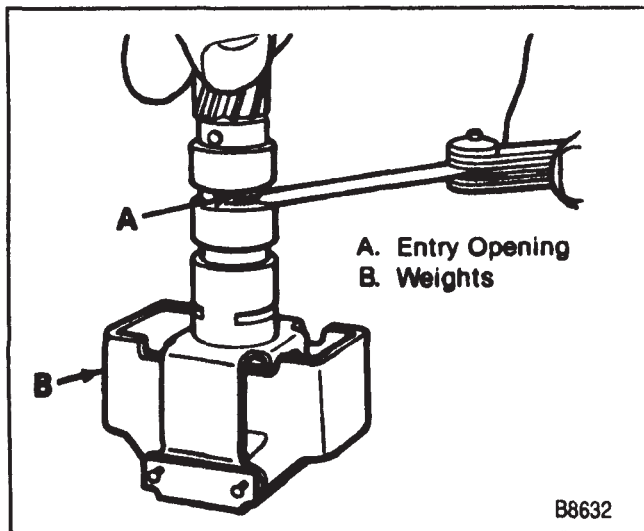

Figure 60—Measuring the Governor Valve Entry Opening
- Valve entry opening. With the weights held all the way outward, the opening should be 5.1 mm (0.020 in.) (figure 60).